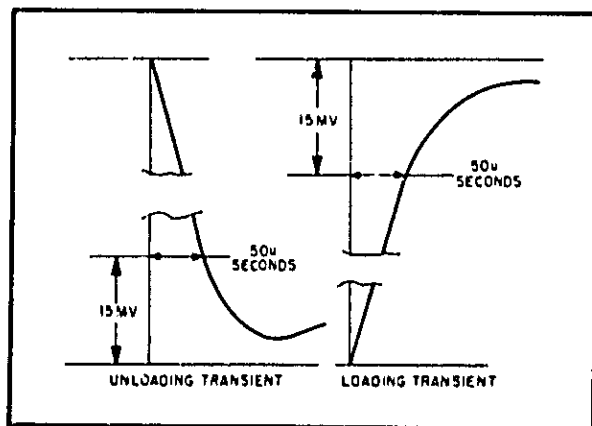

Figure 5-8. Transient Recovery Time, Waveforms
k. Starting from the major graticule division representative of time zero, count to the right 50µsec and vertically 15mV. Recovery should be within these tolerances as illustrated in Figure 5-8.